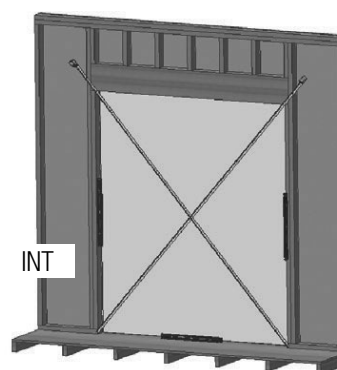

FIG. 1
- C) Verify the rough opening is flat, plumb, level and square. (Fig. 1)
- D) Take diagonal measurements to check for square. (Fig. 1)
- E) Make sure the bottom sill area of the rough opening is flat and level. Correct rough opening if sloped toward the interior, out of level or humped. (Fig. 1)